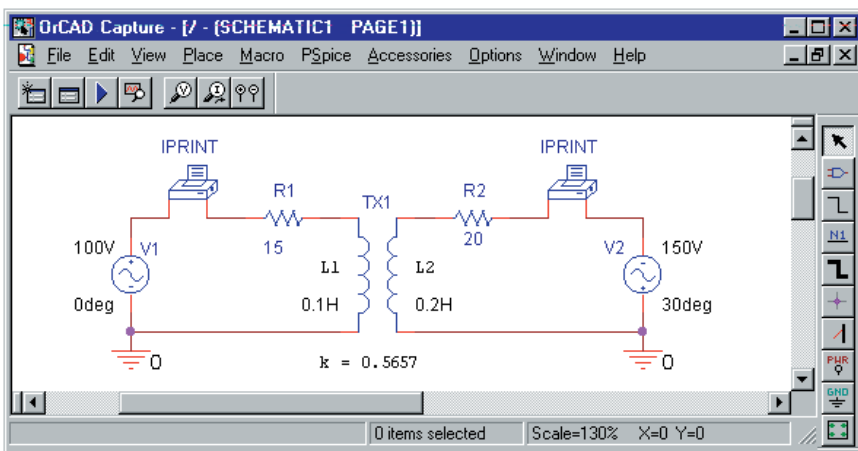

FIGURE 24–68 PSpice solution for Example 24–14.
$L_1 = 100000$ H, then compute $L_2 = 100000/(2^2) = 25000$ H. This sets $a = 2$. Now proceed as follows. Create the circuit of Figure 24–64 on the screen as Figure 24–67. Use source VAC, set up as shown. Double click VPRINT1 and then set AC, MAG, and PHASE to **yes** in the Properties Editor. Repeat for the IPRINT devices. Double click the transformer and set COUPLING to **1**, L1 to **100000H**, and L2 to **25000H**. Select AC Sweep and set Start and End frequencies to **60HZ**. Complete the remainder of the setup, run the simulation, then scroll through the Output File. You should find $I_g = 208.3$ mA \angle 33.6°, $I_L = 416.7$ mA \angle 33.6° and $V_L = 34.6$ V \angle -19.4°. Note that these agree almost exactly with the computed results.
EWB FIGURE 24–67 PSpice solution for the circuit of Figure 24–64.
As a final PSpice example, consider the loosely coupled circuit of Figure 24–59, drawn on the screen as Figure 24–68. Use VAC for the sources
1. Electronics Workbench uses the ideal transformer equations $\mathbf{E_p/E_s = a}$ and $\mathbf{I_p/I_s = 1/a}$ to model transformers. It also permits you to set winding resistance, leakage flux, and exciting current effects as per Figure 24–41. As of this writing, however, Electronics Workbench cannot easily model loosely coupled circuits. (See the Delmar web site at www.electronictech.com for a method.)